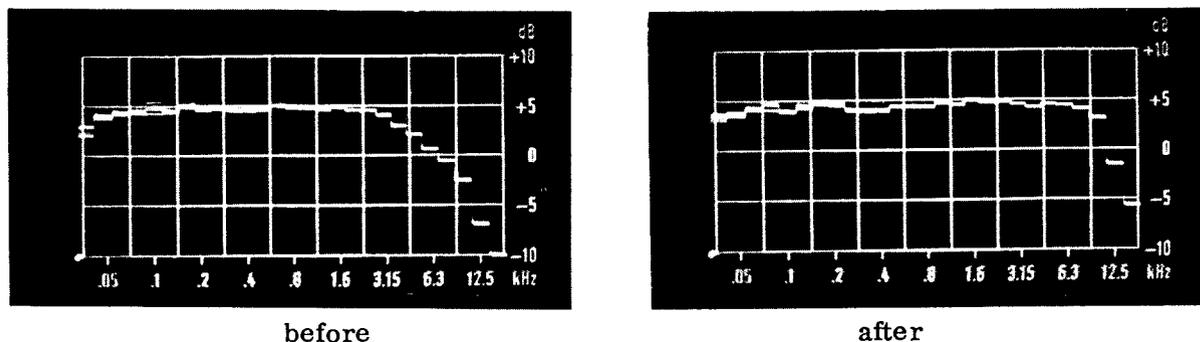

Fig. 7.6 Adjustment of Optical Pre-amplifier h. f. controls
- (g) When azimuth and h. f. have been optimised in (f) obtain flat h. f. response to left and right using the pre-amplifier h. f. controls (Fig. 7.6). Take into account any h. f. calibration information included with the test film. Switch to standby optical pre-amplifiers and repeat.